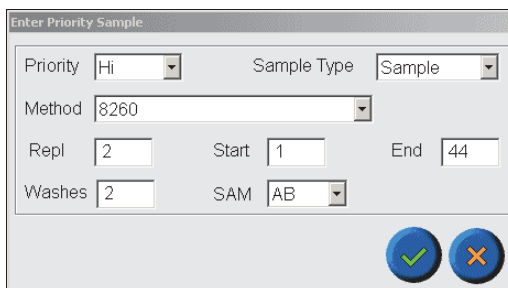

Figure 5.5. Enter Priority Sample dialog box
1. Press the **Priority Sample** icon . The Enter Priority Sample dialog box appears (Figure 5.5).